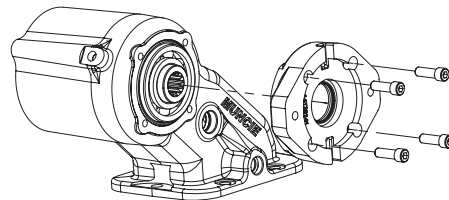

Figure 2 - Flange/Seal Assembly Removal
4. Remove the flange/seal assembly (20) by removing the four socket head capscrews (hex head capscrews for a "B" output) (21) from the flange (20) using a $\frac{5}{16}$ " Allen wrench ($\frac{9}{16}$ " wrench for "B" option). See Figure 2.